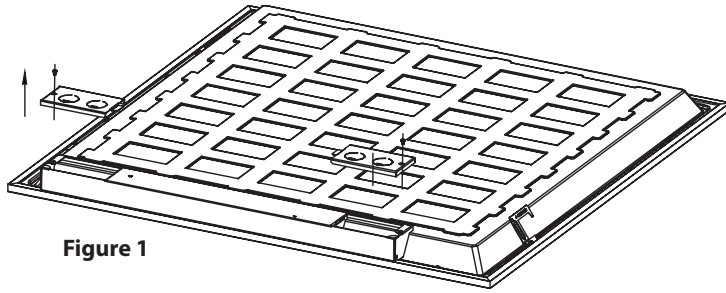

Figure 1
3. Unscrew driver cover and remove knockouts to wire power supply properly. (Fig1)